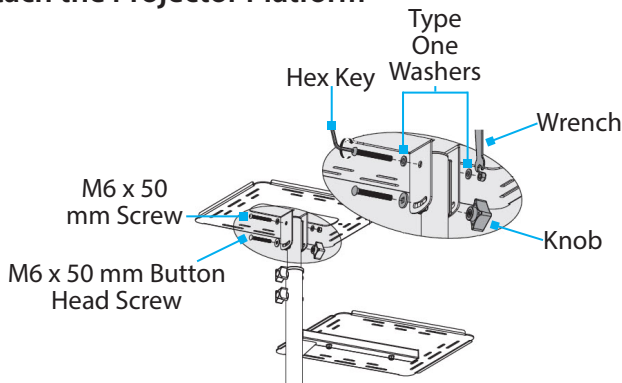

Figure 8
- Slide the **Projector Platform** over the **Mounting Brackets**. Align the holes in the in the **Projector Platform** with the holes in the **Mounting Brackets**. (Figure 8)